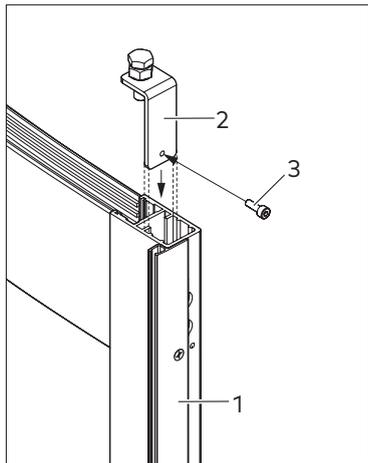

Fig. 48 Mounting of the proximity sensor on the night shield
3. Remove the brush holder profile (Fig. 48/1).
4. Screw the enclosed screw into the mounting bracket slightly (Fig. 48/3).
5. Insert the detector angle into the end profile of the night shield. The short end of the detector angle points to the wing (Fig. 48/2).
6. Fix the detector angle through the upper hole in the profile with the screw (Fig. 48/2).
7. Reassemble the brush holder profile (Fig. 48/1).